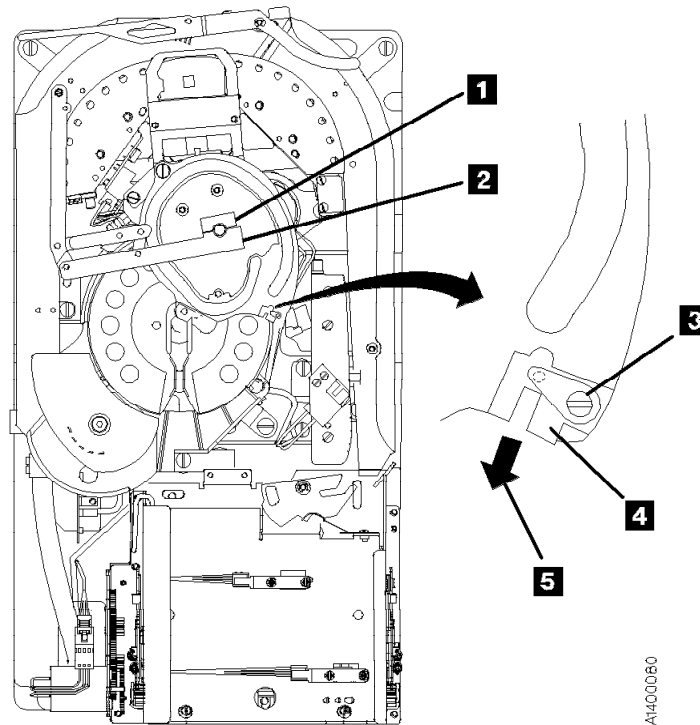

Figure 343. Tape Path B Sensor
3. See Figure 343. Position the pantocam arm **2** so the arm is away from the tape path B sensor **4**.